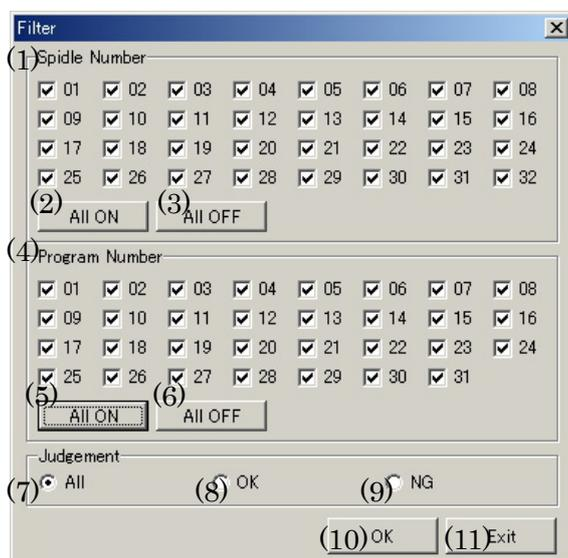

Fig. 7-2-3 Filter screen
| (3) | Recieve | The numerical data of a maximum of 2700 affairs currently held in the controller is received, and they are displayed on a figure 7-2-3 Numerical Viewer screen. The number of receiving data can be specified arbitrarily. The newest data to the data of the number of specification are received. |
| (5) | Filter | The filter setting screen of display data opens.(Fig. 7-2-3) |